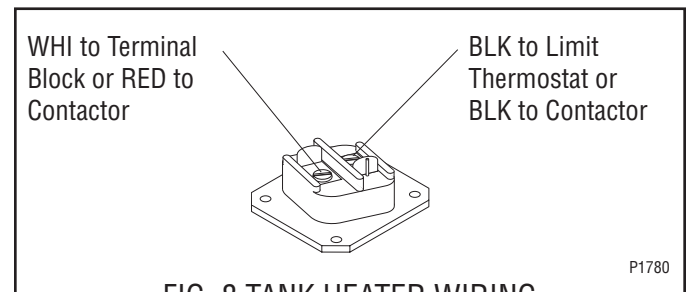

FIG. 8 TANK HEATER WIRING
6. Reconnect the wires, FIG. 8.